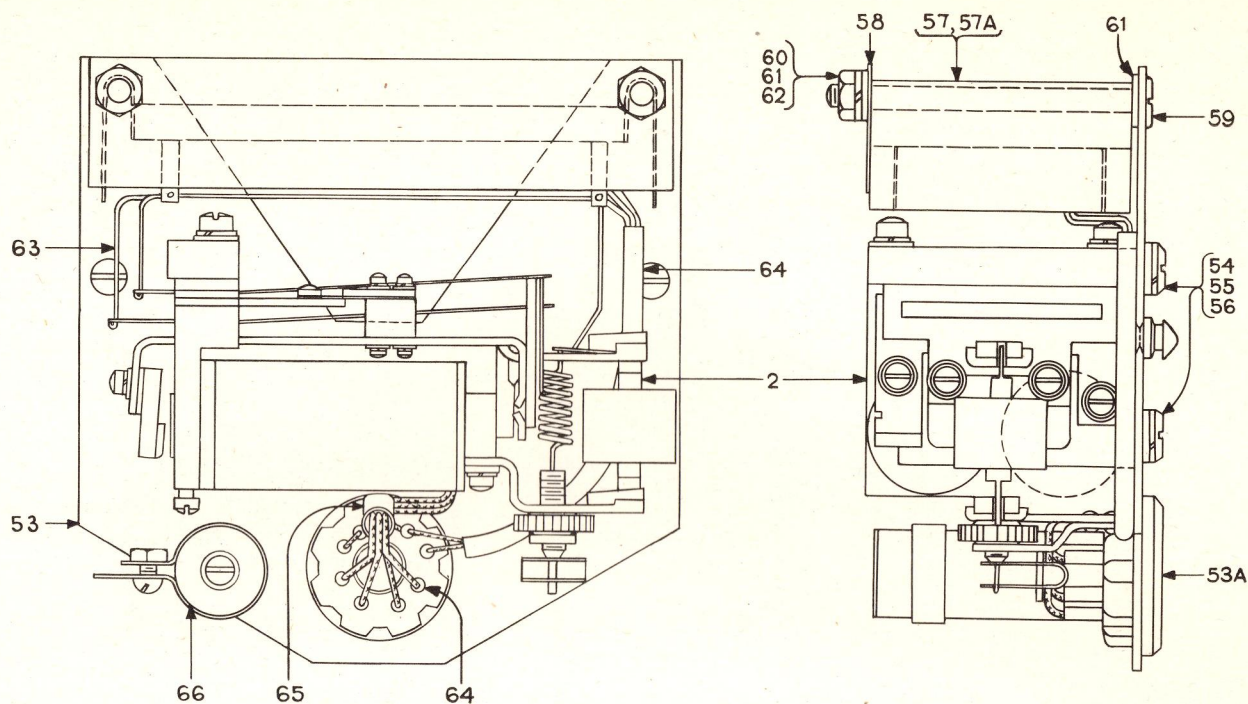

Fig. 10, Ref. 1. Assembly of regulator unit
Disassemble the regulator unit (Fig. 10) by first removing the wires (63) soldered to the contact fingers. Dismount the regulating resistor (57) and the nameplate (58). Remove the base (53) from the control unit (2), removing necessary leads. Remove resistor (66).
Referring to Fig. 10, add the base (53) to the assembled control unit, fastening with screws (54), washers (55), and lock washers (56).
Referring to Fig. 10, add the regulating resistor (57) to the assembled control unit, adding the nameplate (58), and fastening with screws (59), nuts (60), washers (61), and lock washers (62). Solder the wires (63) from the regulating resistor to the proper contact fingers as shown in Fig. 8. Add the adjustable resistor (66) by means of the screw provided. Wire as shown in Fig. 8.